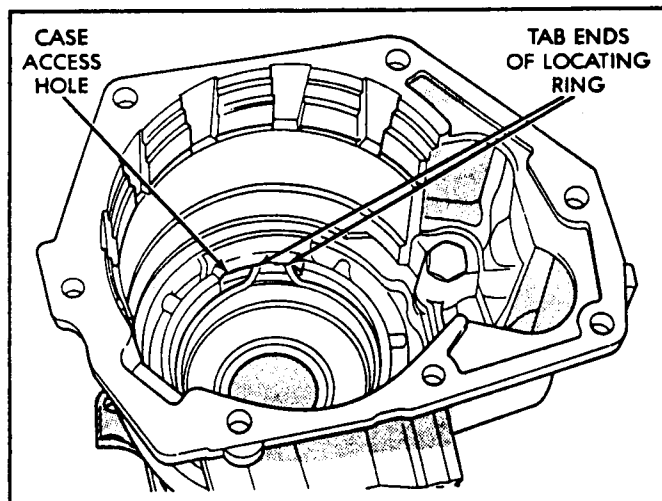

Figure 25
38. Verify that the tab ends of rear bearing locating ring extend into access hole in overdrive housing, as shown in Figure 25.